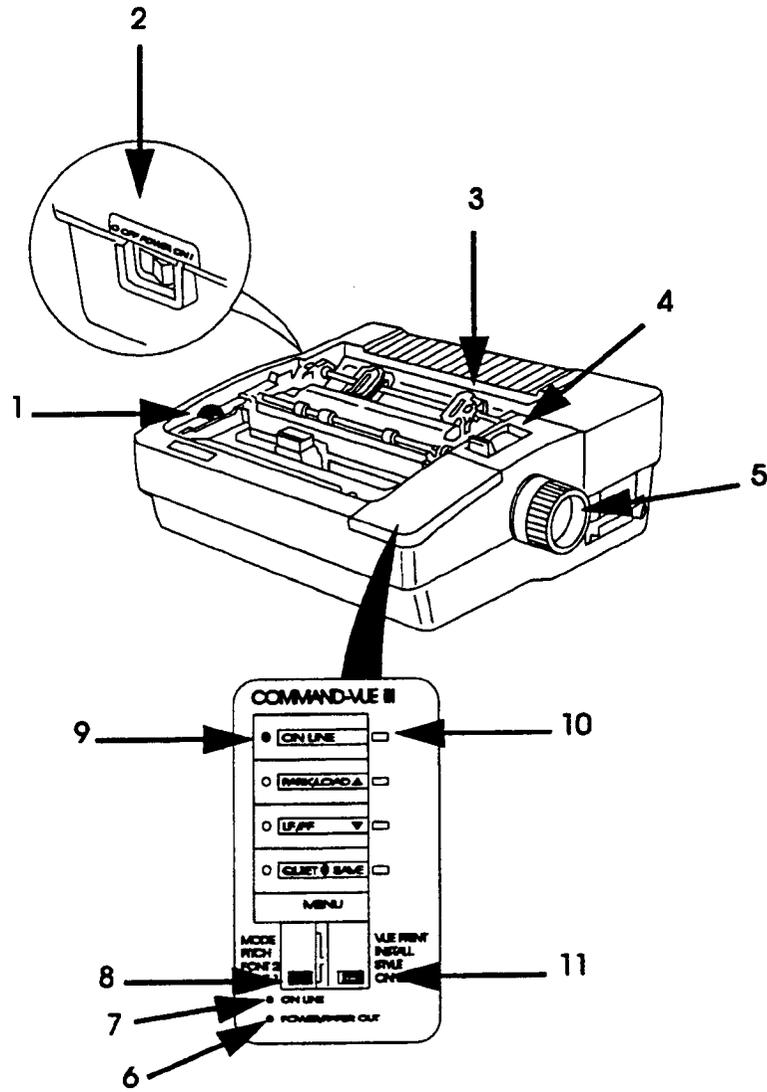

Figure 2-3. Printer Controls and Indicators
2.1.3 Printer. The following controls and indicators are on the Printer Control Panel, on the side and front of the printer and shown in Figure 2-3: